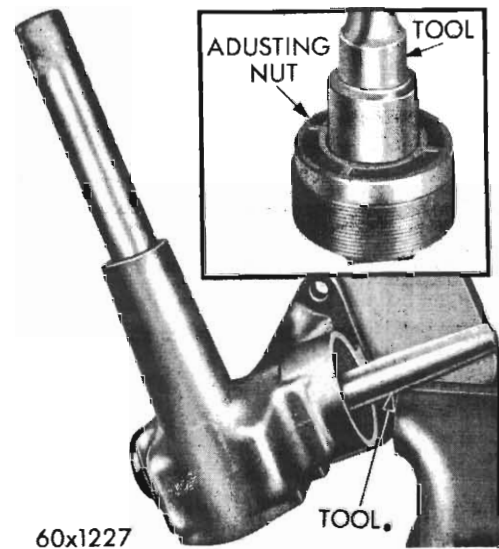

Fig. 10 - Installing wormshaft bearing cups (typical) (Tool E19C15A)
(3) Install the wormshaft bearing cups, position the cups in the housing and bearing adjuster nut. Then press them in place with Tool E19C15A (See Fig. 10). Install a new plug in front end of housing.
(4) Install the wormshaft oil seal by positioning the seal in the wormshaft adjuster with lip of seal up. Drive the seal into place with a suitable sleeve so it is slightly below the end of the bore in the adjuster.